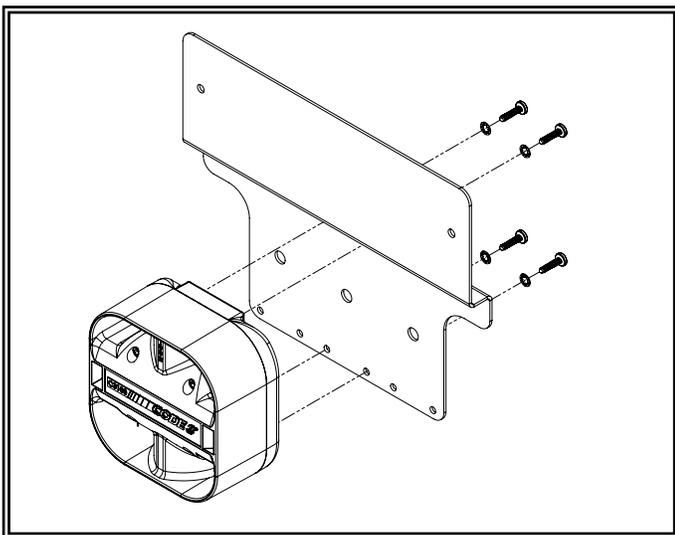
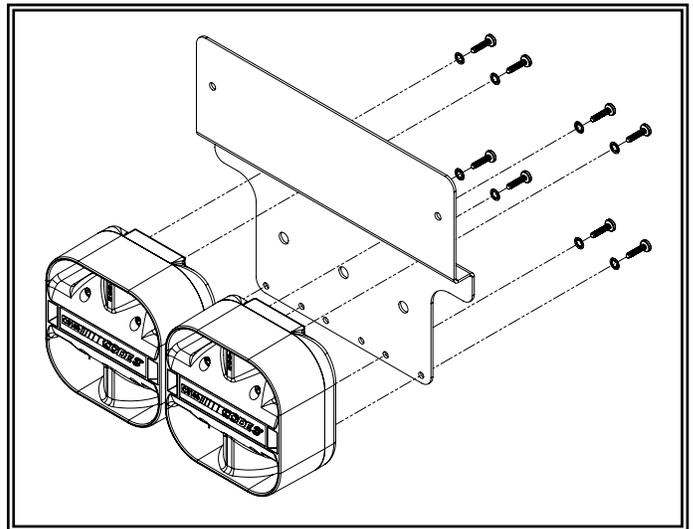

Figure 1 Single Speaker Version
Figure 2 Dual Speaker Version
Step 1. For a single speaker application, assemble the C3100 speaker to the mounting bracket as shown in figure 1. For a dual speaker application, assemble the C3100 speaker to the mounting plate as shown in figure 2. Use (4) of the #12 phillips head screws and star lock washers that are supplied in the #55025 hardware bags to mount each of the C3100 speakers. Make sure the "MOUNT WITH THIS END UP" "CAUTION!" label is on the top as oriented in the views in Figures 1, 2 & 3 below. Discard the remaining hardware.